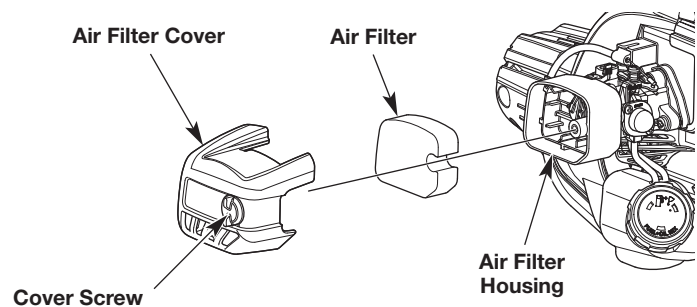

Fig. 23
1. Open the air filter cover by unscrewing the cover screw (Fig. 23).
2. Remove the air filter from the air filter housing (Fig. 23).
6. Reinstall the air filter in the air filter housing (Fig. 23).